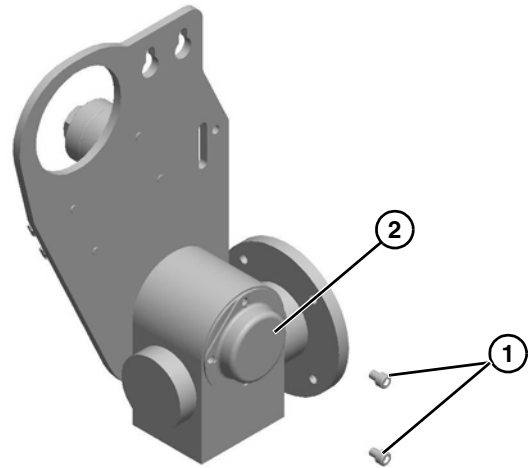

Figure 34
9. Attach output shaft cover (**Figure 34, item 2**) with two screws (**Figure 34, item 1**).